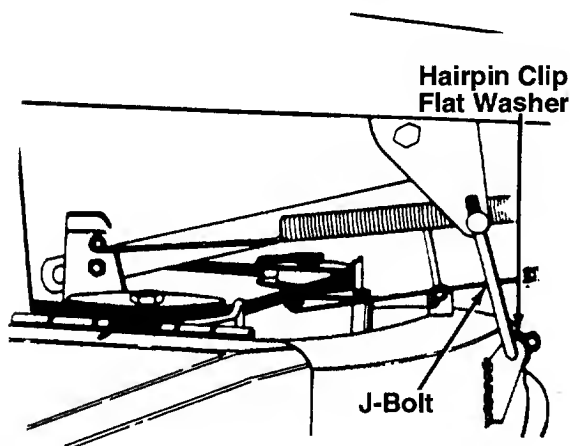

FIGURE 10.
3. If the front is not between 1/4" and 3/8" lower than the rear, remove the hairpin clips and flat washers which secure the J-bolts to the front of the deck, both right and left sides. See figure 10. Thread the J-bolts into or out of the ferrules as necessary.